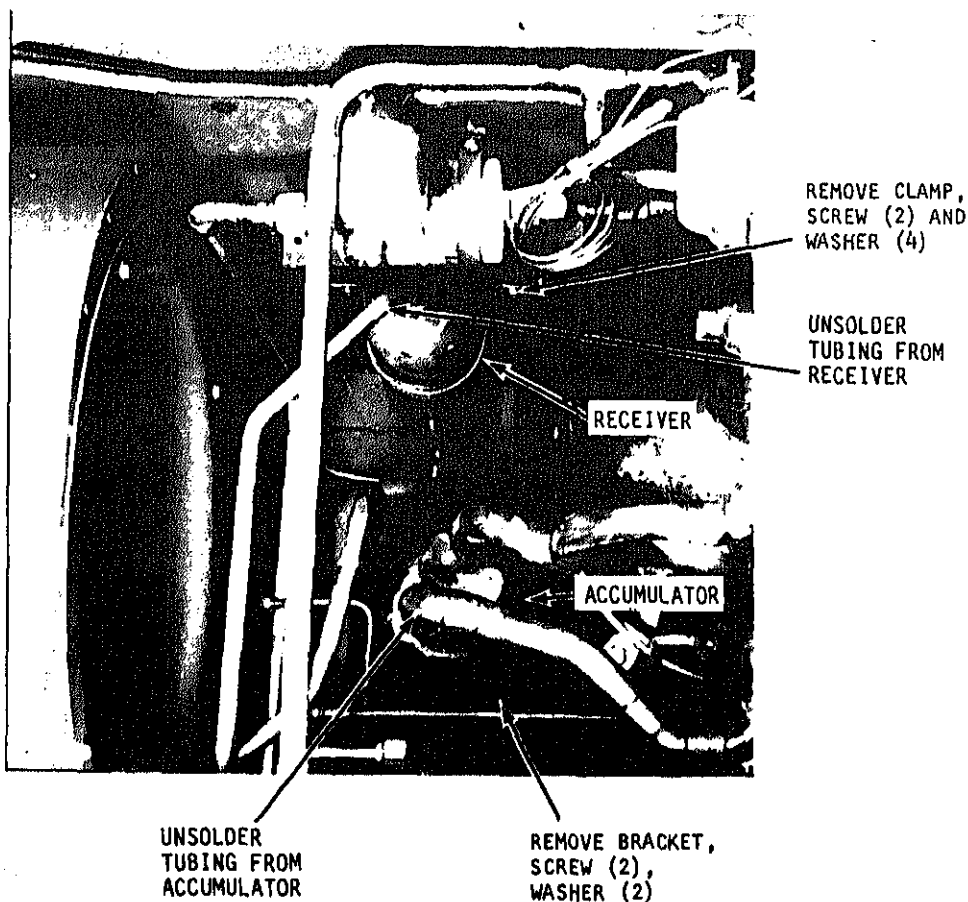

Figure 5-8. Receiver and accumulator removal and installation.
(4) Refer to figure 5-8 and remove receiver mounting bracket.
(5) Unsolder receiver from refrigeration system tubing.
(1) Refer to figure 5-8 and mount receiver on compartment wall.
(4) Refer to figure 5-8 and unsolder system tubing from accumulator.
(5) Remove two screws and washers holding accumulator bracket. Remove accumulator.
(6) Remove nut to separate accumulator from bracket.